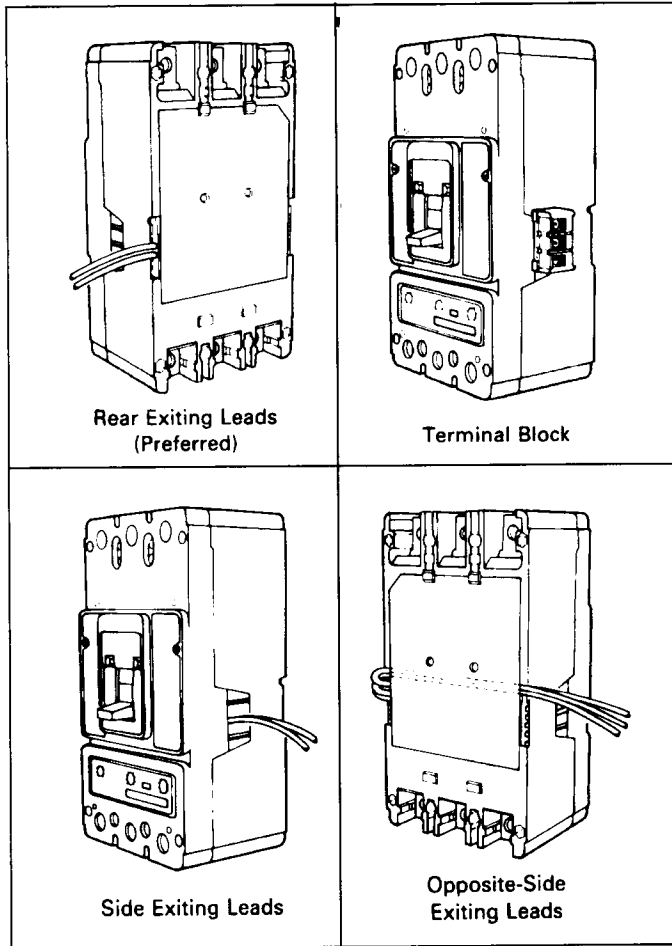

Fig. 2-2. Accessory Wiring Options
- 2-4. Route wiring to meet installation requirements. (See Fig. 2-2.)